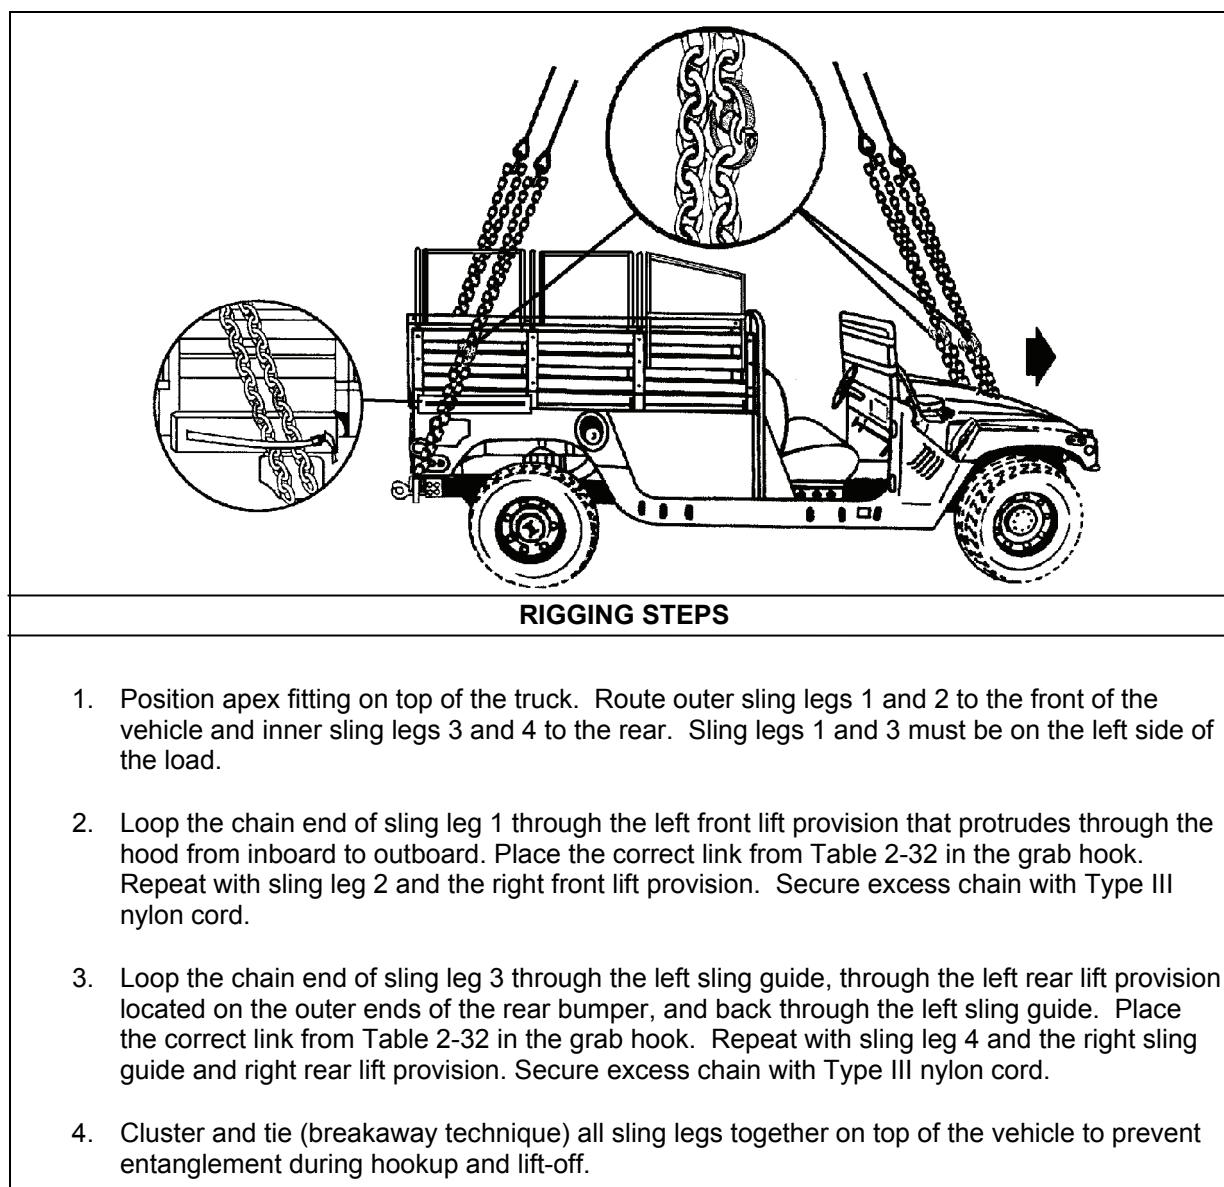

Figure 2-31. M1097A2 with Advanced Field Artillery Tactical Data System Full Size Soft Top Installation Kit
- **Rigging.** Rig the load according to the steps in Figure 2-31.